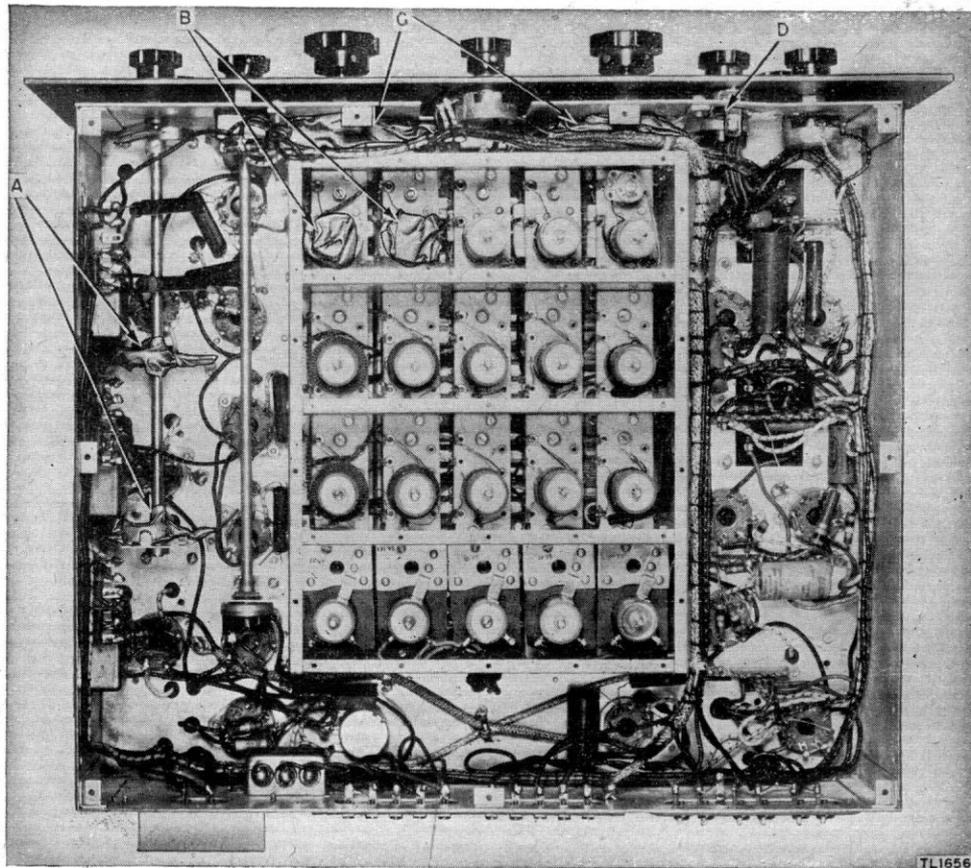

Figure 21. Radio Receiver BC-1004-C, bottom view of chassis, showing masking.
- (4) Cams and levers on bandwidth selector-mechanism shaft (A, fig. 21).
- (5) Capacitors in alinement-adjustment section (B, fig. 21).
- (6) Friction drive wheels of main tuning and band spread selecting mechanism (C, fig. 21).
- (7) Phone jack (D, fig. 21).
*e. DRYING.* (1) Place equipment in an oven or under heat lamps and dry for 2 or 3 hours at 160° F.